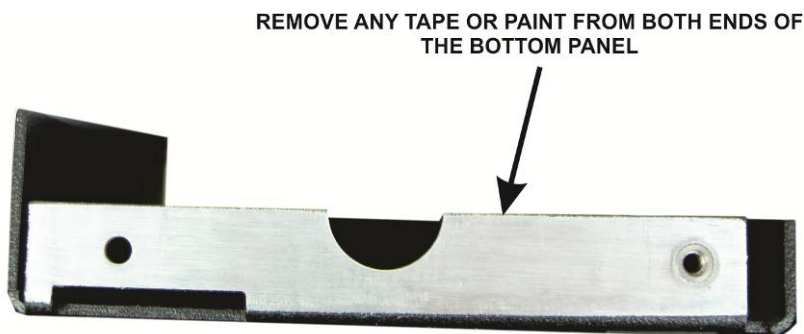

Figure 43. Rear Panel Ends Cleaned.
- Unwrap the bottom panel and clean away tape or paint from each end as shown in Figure 43.